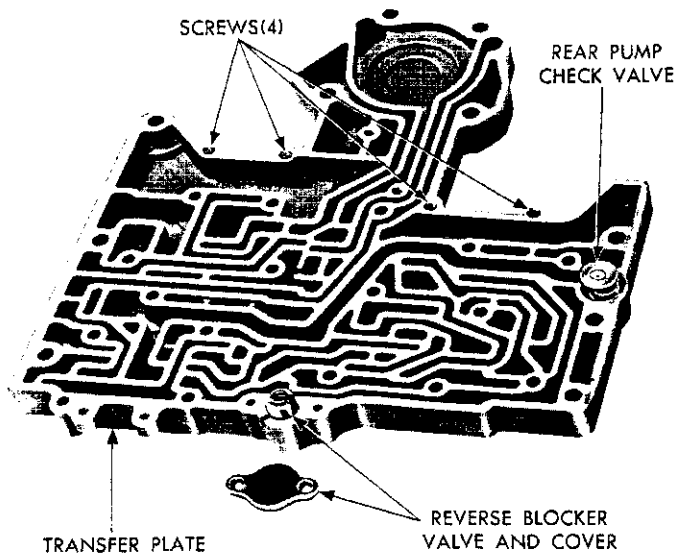
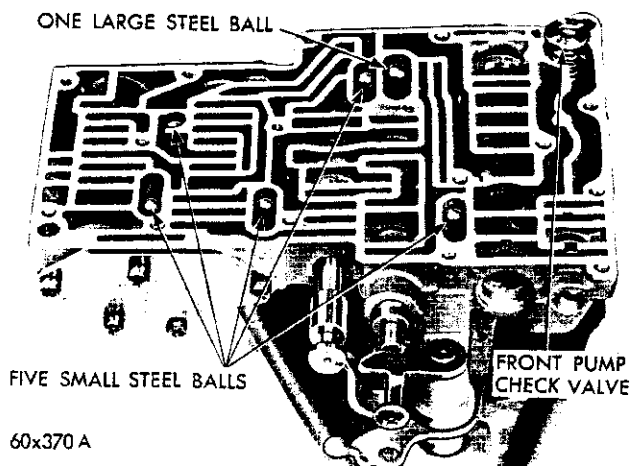
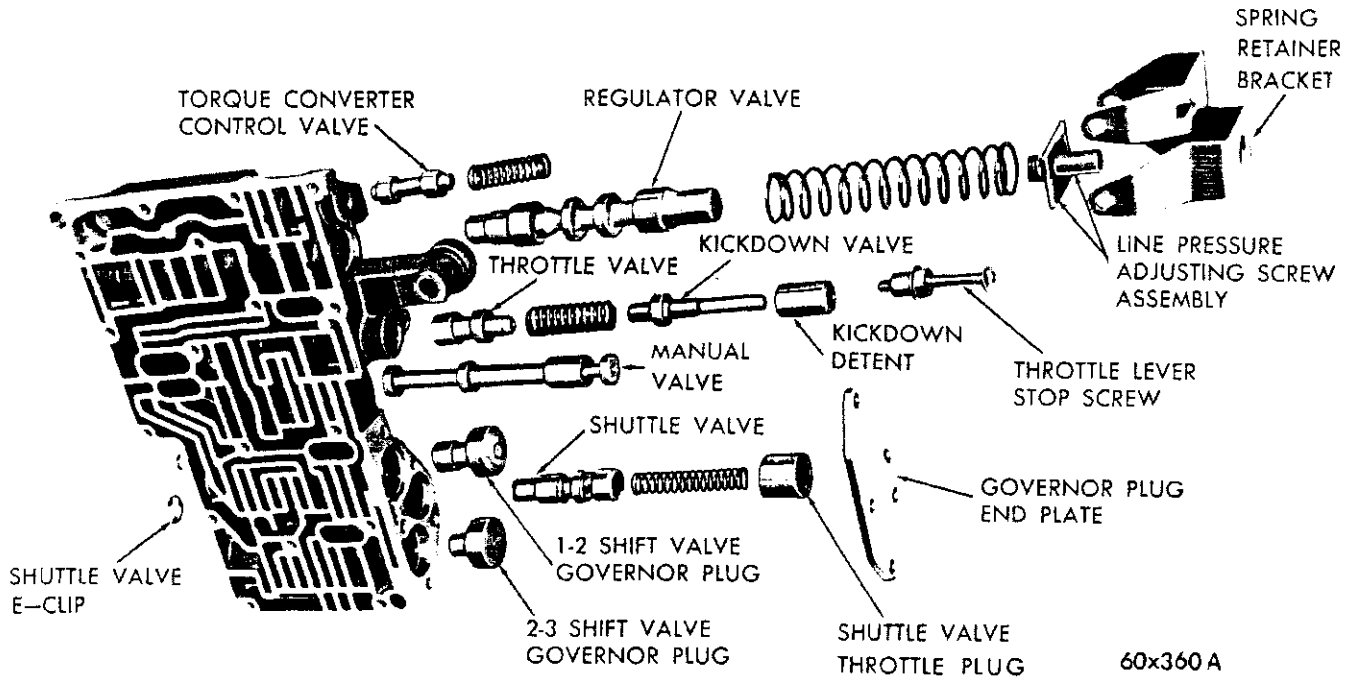
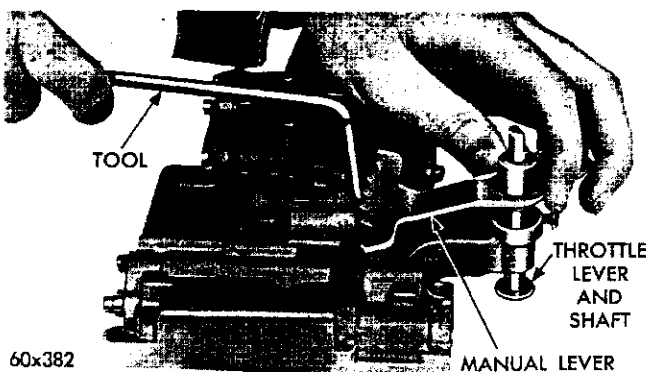

Fig. 56—Transfer and Steel Separator Plate Assembly (Disassembled View)
Fig. 57—Front Pump Check Valve and Steel Ball Locations
Fig. 60—Valve Body-Lever Side (Disassembled)
Fig. 62—Installing Detent Ball, Spring and Manual Lever
(6) Invert the transfer plate assembly and remove the stiffener plate. Remove the remaining screws attaching the steel plate to the transfer plate, and carefully lift off the steel plate (Fig. 56). Remove the rear pump check valve and spring.
(7) Remove the reverse blocker valve cover and lift out the spring and valve.
(8) Note the location of the six steel balls in the valve body, one of them is larger than the other five and is in the larger chamber (Fig. 57). Remove the steel balls, front pump check valve and spring.
(13) If necessary, remove the throttle lever stop screw assembly (Fig. 60). Be careful not to disturb the setting any more than is necessary.
(14) Remove the kickdown detent, kickdown valve, throttle valve spring and the throttle valve (Fig. 60).
(15) Remove the governor plug end plate (Fig. 60). Tip up the valve body to allow the shuttle valve
(1) Place the rear pump check valve and spring in the transfer plate (Fig. 56). Position the steel plate on the transfer plate, hold the rear pump check valve in its bore with a thin steel scale, and install four steel plate to transfer plate retaining screws. Make sure the bolt holes in the steel plate and transfer plate are aligned, then tighten screws evenly to 28 inch-pounds torque. Test the rear pump check valve for free movement in the transfer plate. Install the stiffener plate and tighten retaining screws to 28 inch-pounds torque.
(2) Turn the transfer plate over and install the reverse blocker valve spring and valve (Fig. 56). Rotate the valve until it seats through the steel plate. Hold the valve down and install the blocker valve cover plate. Tighten the two retaining screws to 28 inch-pounds torque.
(3) Place the 1-2 and 2-3 shift valve governor plugs in their respective bores (Fig. 60). Install the shuttle valve, spring and shuttle valve throttle plug. Install the governor plug end plate and tighten the four retaining screws to 28 inch-pounds torque.
(7) Install the throttle valve and spring (Fig. 60). Slide the kickdown detent on the kickdown valve (counterbore side of detent toward valve), then install the assembly in the valve body.
(8) If removed, install throttle lever stop screw (Fig. 60), and tighten the lock nut finger tight.
(9) Install the manual valve in the valve body (Fig. 60).
(10) Install the throttle lever and shaft on the valve body (Fig. 62). Insert detent spring and ball in its bore in the valve body. Depress the ball and spring with Tool C-3765 or similar tool and slide the manual lever over the throttle shaft so that it engages the manual valve and detent ball. Install the retaining E-clip on the throttle shaft.
(11) Position the valve body assembly on the holding stand.
(12) Place the six steel ball in the valve body chambers with large ball in the large chamber (Fig. 57). Place the front pump check valve and spring in the valve body.
(13) Position the transfer plate assembly on the valve body. Hold the front pump check valve in its bore with a thin steel scale. Install the 14 retaining screws, starting at the center and working outward, tighten screws to 28 inch-pounds torque.
(14) Install the converter valve and the regulator valve (Fig. 60).
(15) Position the torque converter valve spring and regulator valve spring over the ends of their respective valves. Place the line pressure adjusting screw assembly on the end of regulator valve spring with the long dimension of nut at right angles to the valve body (Fig. 60).